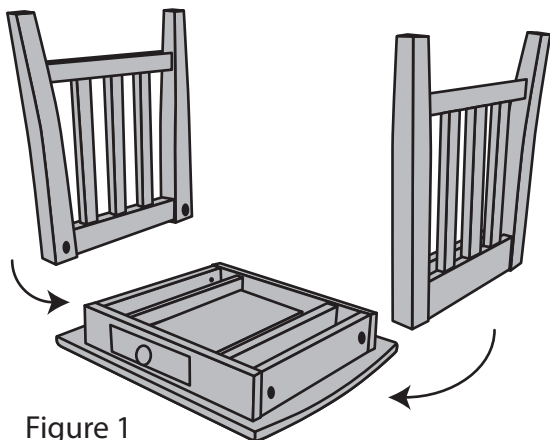

Figure 1
- 2) Place the top face down on a clean soft surface as shown in Figure 1.